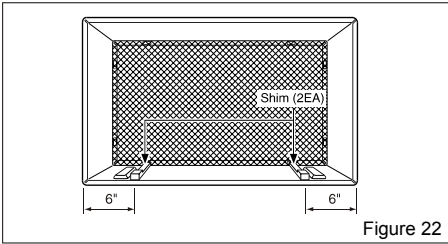

Figure 22
- 7** Remove the backing from the 13" shim strips and attach them as shown below in Figure 22. The higher portion of shim is to be placed in front of the rib on the base of wall sleeve.